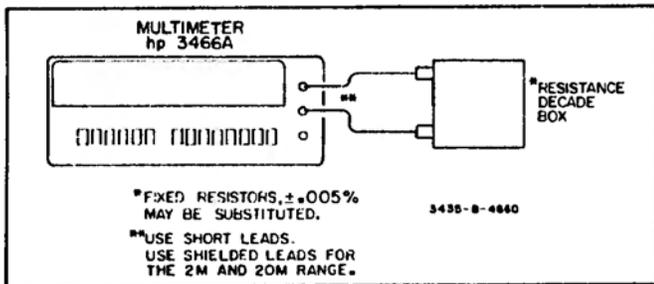

Figure 4-8. Ohms Accuracy Test
- b. Connect the Resistor Decade Box to the 3466A as shown in Figure 4-8.